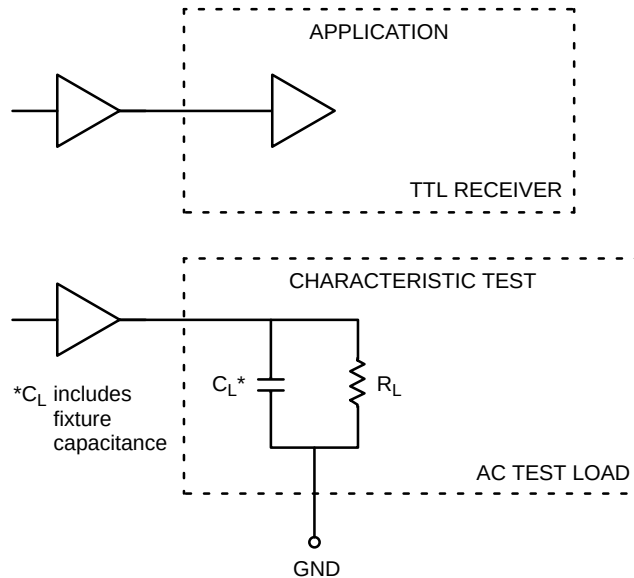

Figure 2. TTL Output Loading Used for Device Evaluation
6. $R_L = 500 \Omega$ to GND and $C_L = 20 \text{ pF}$ to GND. Refer to Figure 2.